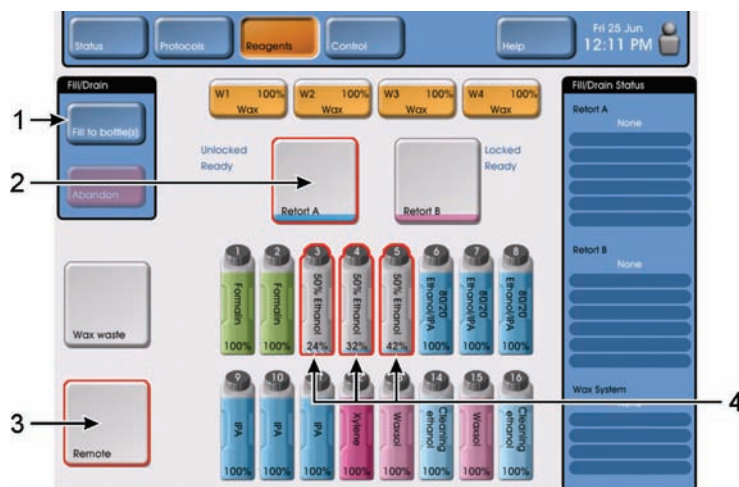

Figure 113: Remote fill/drain setup for filling bottles
- From the remote fill/drain screen, select the following (see Figure 113):
- The retort you wish to use (2)
- The remote drain line (3)
- The bottle(s) you wish to fill (4).
- Select the **Fill to bottle(s)** button (1) to begin the fill function (see Figure 113).